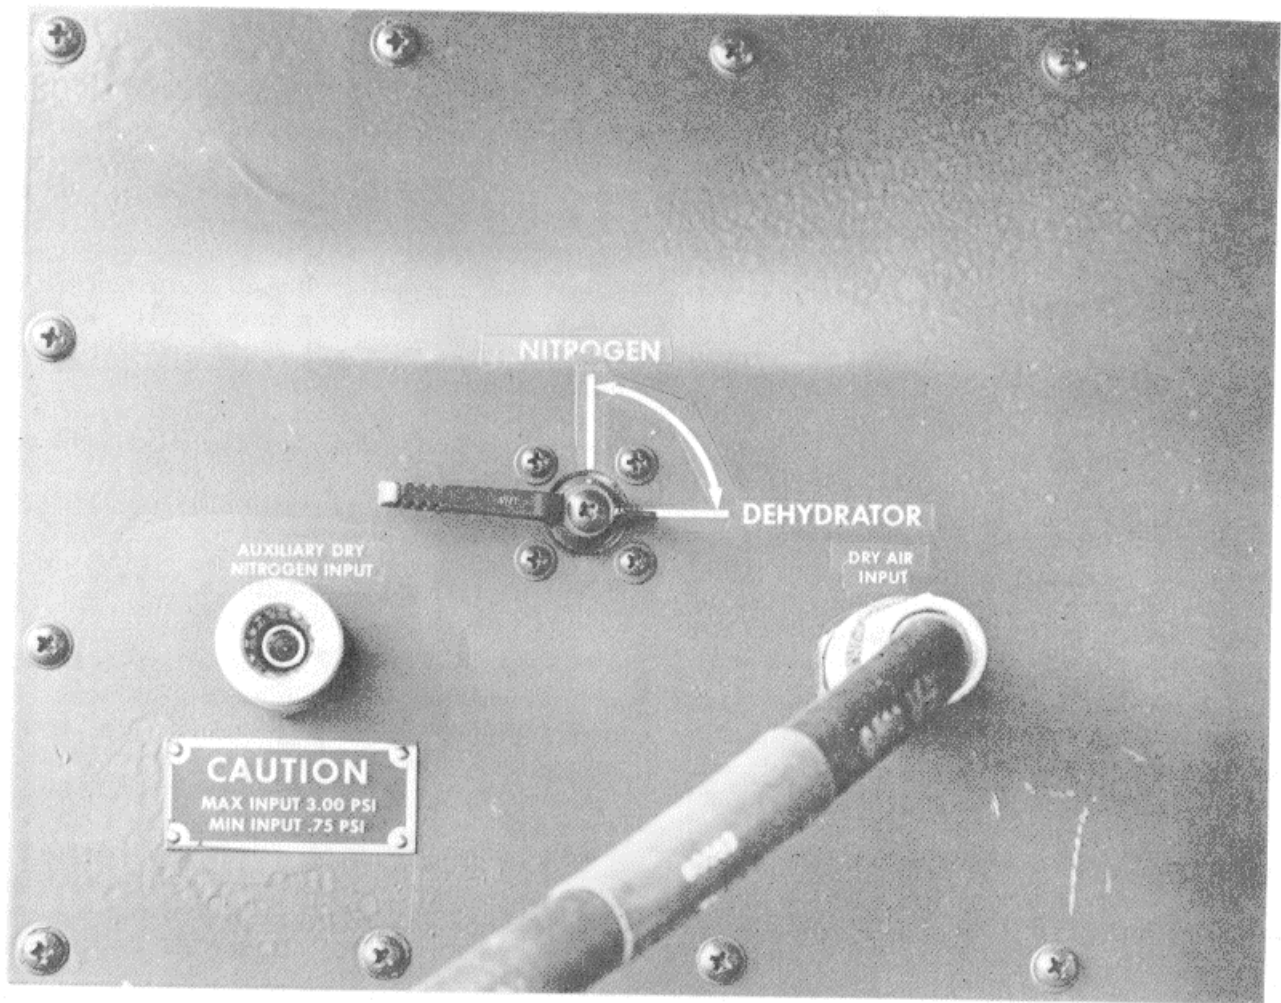

Figure 3-61. Auxiliary dry nitrogen input and control valve locations.
c. Set the DEHYDRATOR-NITROGEN valve (fig. 3-61) to NITROGEN.